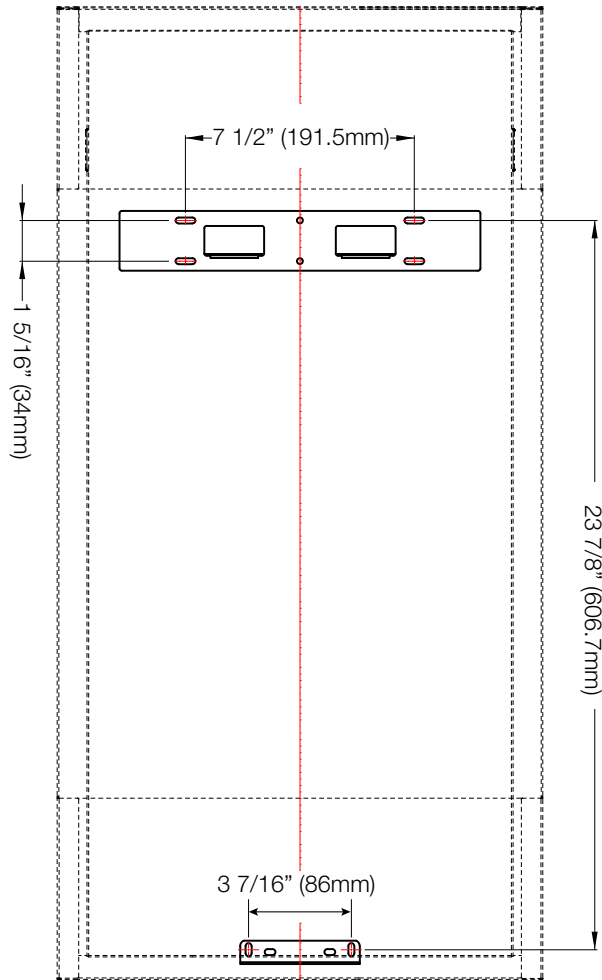
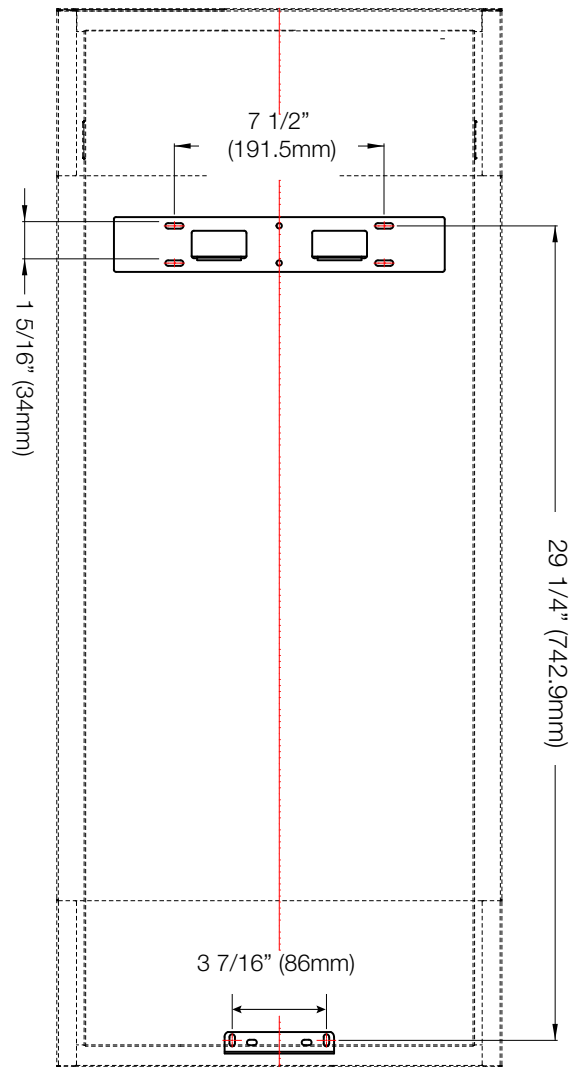

Fig. 2: NEFVC32H-EU Wall Mounting Installation Template
Fig. 3: NEFVC38H-EU Wall Mounting Installation Template
- Using the appropriate wall mounting installation template (**Fig. 2 for NEFVC32H-EU or Fig. 3 for NEFVC38H-EU**), mark out the back and bottom bracket locations on the wall.
2. Place the glass into the track located inside the firebox (**Fig. 2**).
3. Push the top of the glass against the top of the plastic panel (**Fig. 3**).
2. For ease of removal, use the bracket hooks to reach behind the glass and pull it forward (**Fig. 3**).